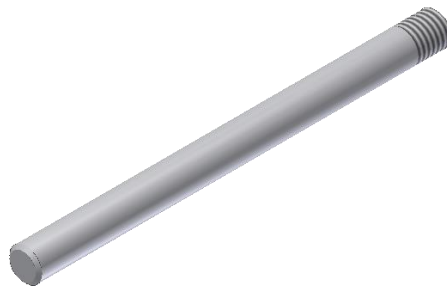

Figure 17. Mallet handle.
- Select **Thread** from **Modify** panel. Use thread specifications from mallet head to place threads on one of the handle. See Figure 17.